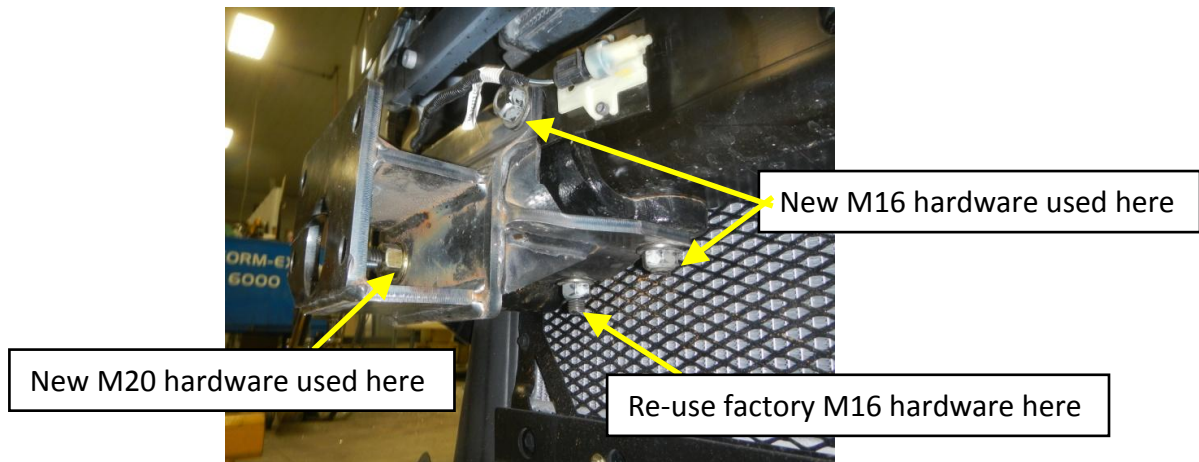

Figure 5
6. Using two M16 x 80 hexbolts, flatwashers and lock nuts supplied along with M20 flatwasher and locknut, install MTK-06-01.PS as shown in Figure 5 and tighten hardware.